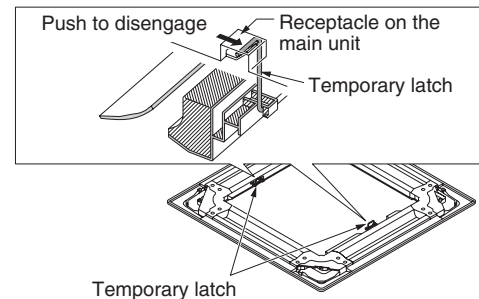

Fig. 1-134
- 1) Hang the temporary latches on the inside of the ceiling panel to the receptacle on the unit to temporarily attach the ceiling panel in place. (Fig. 1-134)
- When removing the ceiling panel, push the temporary latches outward while holding the ceiling panel. (Fig. 1-134)